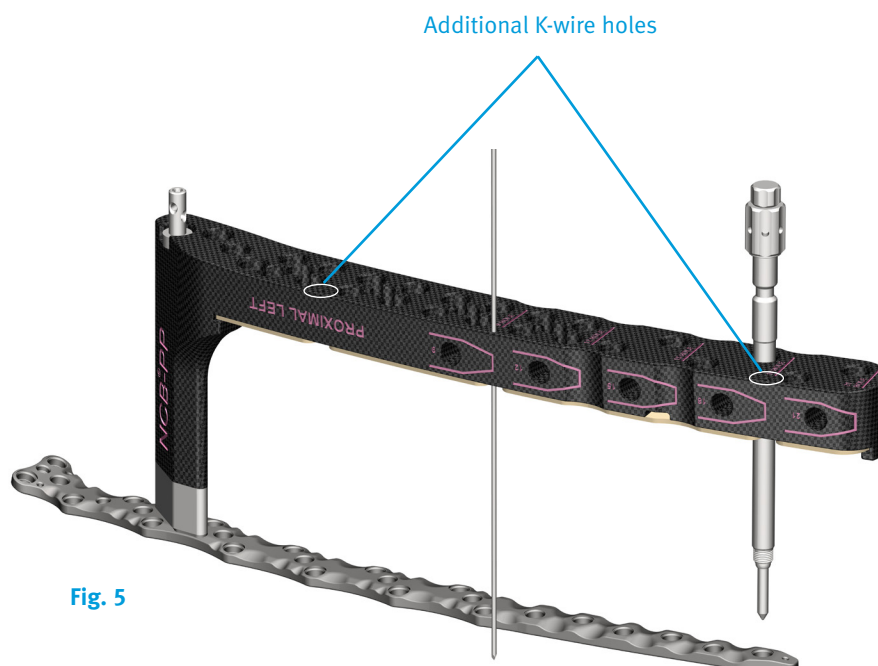

Fig. 5
2. Make a stab incision at the most distal plate hole. Insert the *NCB* Trocar (REF 02.00024.062) and Stabilization Bolt (REF 02.00024.074) into the *NCB* Periprosthetic Plate (**Fig. 5**). Use the three K-wire holes to hold the targeting device in place, ensuring that the targeting device does not sag. Depending on the patient anatomy, these K-wires may rest on the anterior aspect of the femur when the plate is centered on the bone.